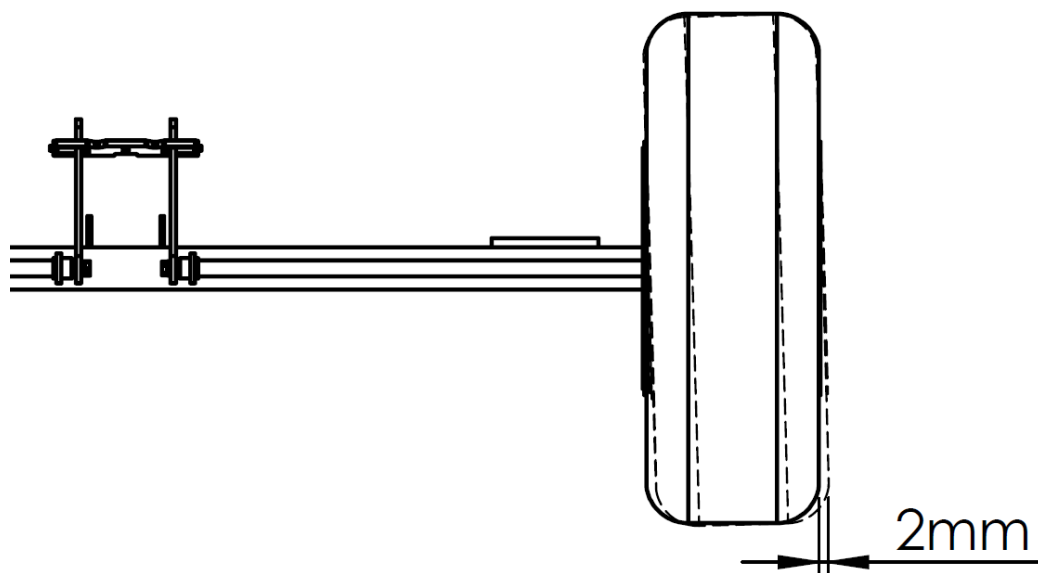

Fig. 12 Checking driving wheel bearing backlash.
- if the wheel displays excessive clearance, i.e. is above 2mm on the extreme exterior surface of the tire (fig. 12) , dismount the hub cover, hub seal and remove the pin of the castellated nut;